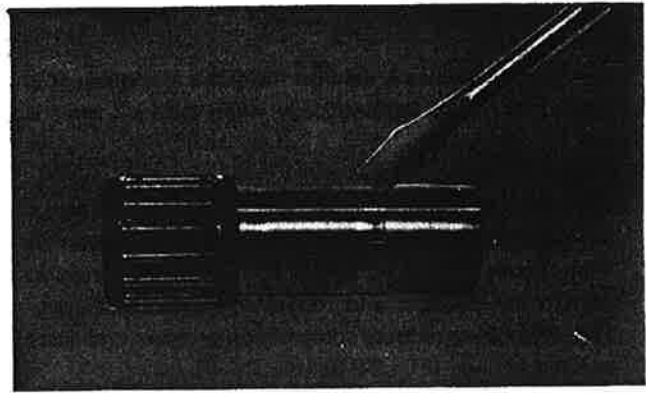

Fig. 3-3-9
1. Check the pin for signs of wear. If any wear is evident, replace pin and bearing. (Fig. 3-3-9)
2. Check the pin and bearing for signs of heat discoloration. If excessive (heavily blued), replace both. (Fig. 3-3-9)